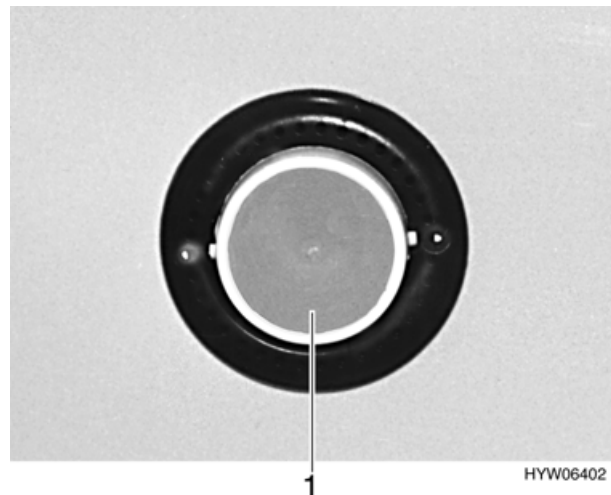

Fig. 97 Toilet light
- Press the lamp glass (Fig. 97,1) at both hooks together and pull it out.